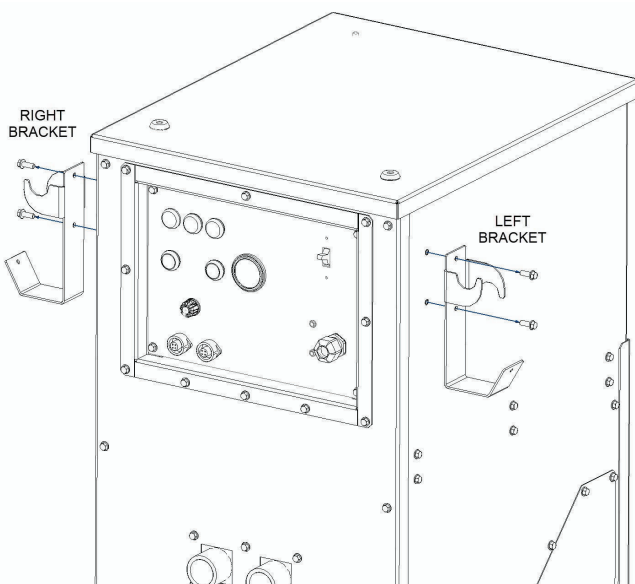

FIGURE A.1
1. Remove the side hose brackets from the accessory box. Remove 4 screws (2 on each side) from the machine (see fig A.1). Attach the side torch/hose holder brackets using the 4 removed screws. Note the orientation of the brackets. There is a left and right side.